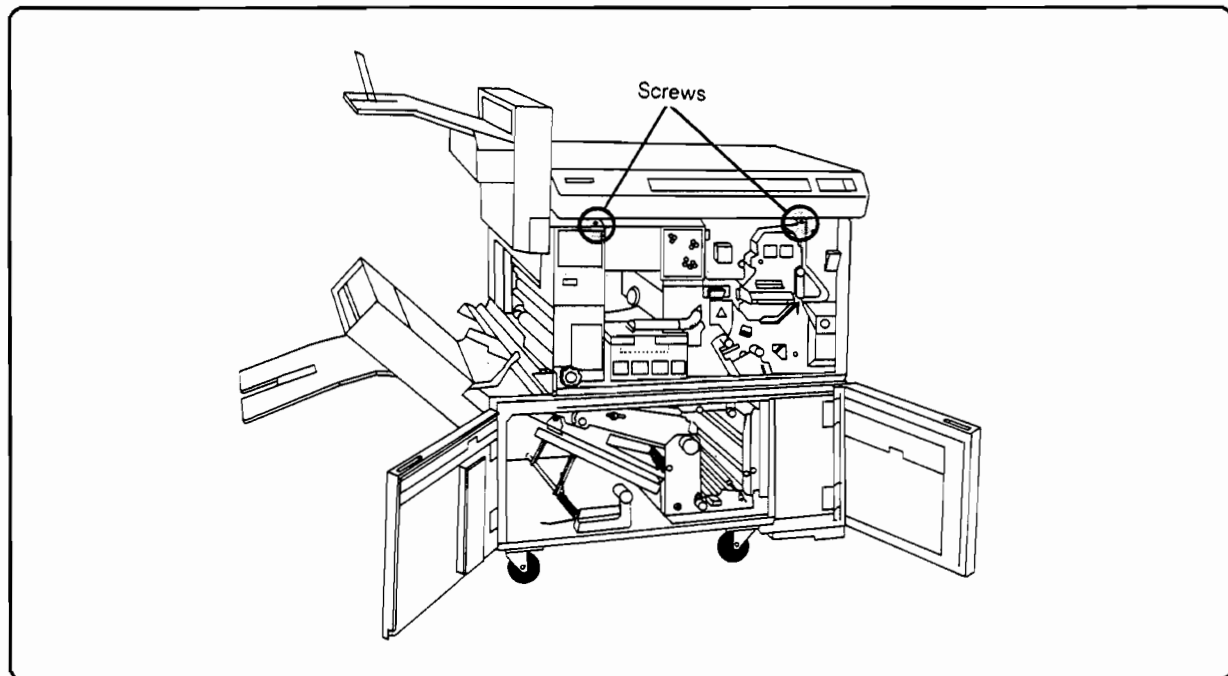

Figure 6-16. Top Cover Hold-down Screws
1. Open the right and left print engine doors and **loosen** the left and right hold-down screws shown in Figure 6-16.